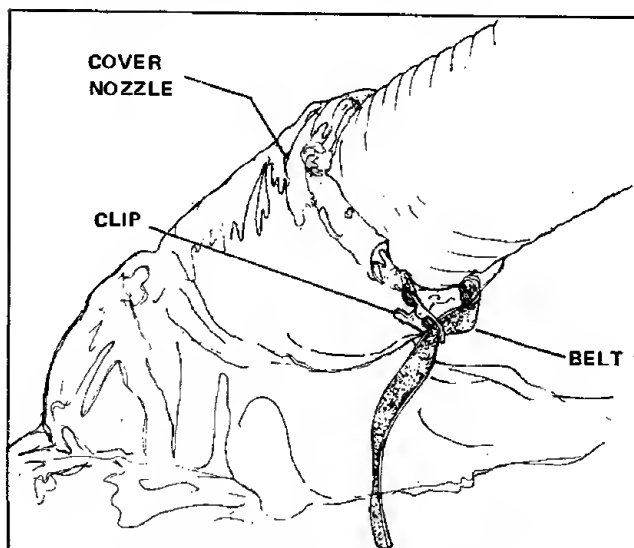

Figure 5. Installing Hose in Cover
8. Insert the free end of the discharge hose through the opening in the dump cart cover so that it extends at least 12 inches into the cover. Tighten the cover opening around the discharge hose with the belt in the cover opening. (See figure 5.)